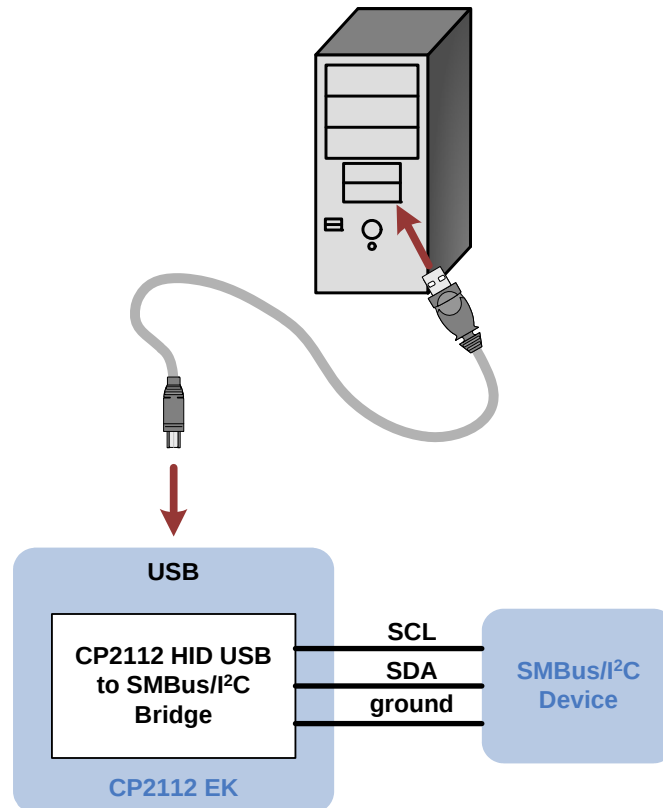

Figure 1. Hardware Setup
1. Connect the CP2112 evaluation board to a PC as shown in Figure 1.
1. Ensure that the hardware is connected to a Windows PC as shown in Figure 1. If the device is properly connected, the red **SUSPEND** LED on the CP2112 evaluation board will turn on.
- Updated Figure 1.